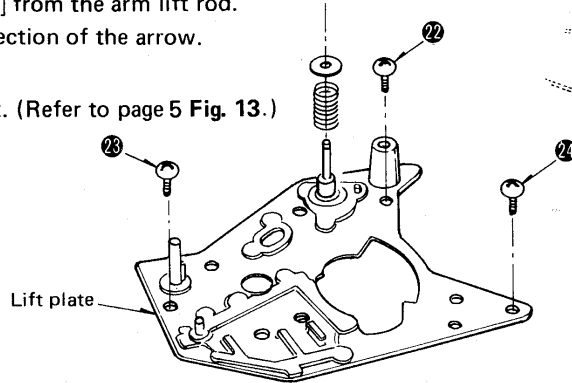

Fig. 11
● **How to remove the lift plate (Fig. 11)**
2. Remove the 3 setscrews [ Fig. 11: 22 ~ 24 ] of the lift plate.